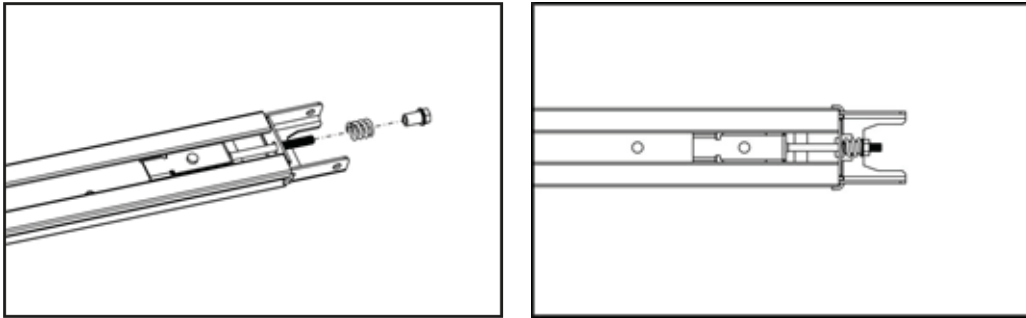

Figure 10
3) As Figure 10, release the nut & spring.